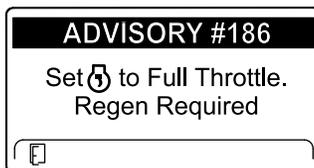

Figure 38
**Note:** If the InfoCenter displays ADVISORY #186 (Figure 38), set the engine to full throttle (high idle) to allow the reset regeneration to continue.